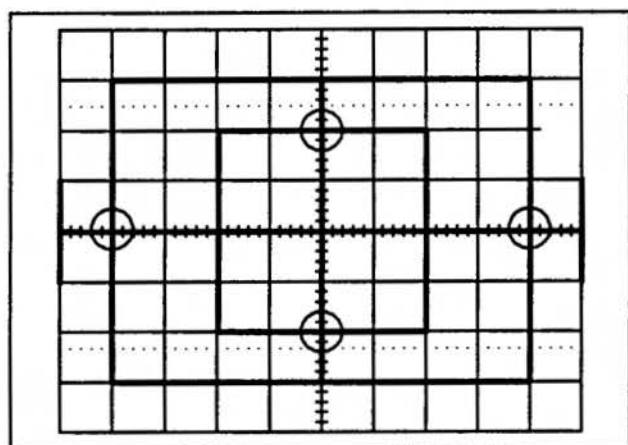

Figure 5-1. Locations at which horizontal and vertical gains are adjusted.
*Make sure the midpoint of each outside trace of the calibration pattern is exactly centered over its respective graticule line. See Figure 5-1.*